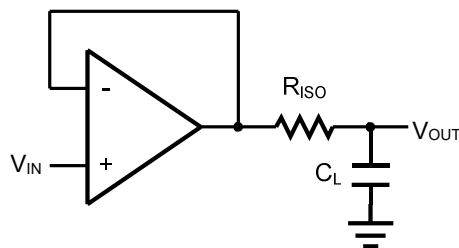
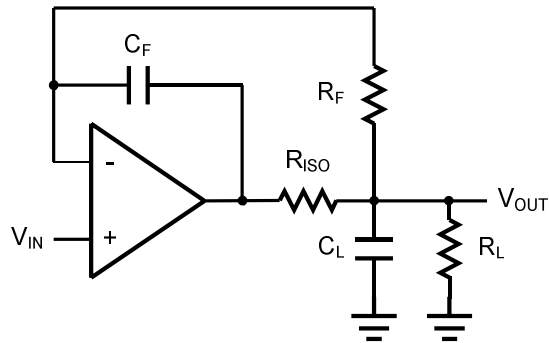

Figure 2. Indirectly Driving a Capacitive Load Using Isolation Resistor
Figure 3. Indirectly Driving a Capacitive Load with DC Accuracy
The HGx376 family is optimized for bandwidth and speed, not for driving capacitive loads. Output capacitance will create a pole in the amplifier's feedback path, leading to excessive peaking and potential oscillation. If dealing with load capacitance is a requirement of the application, the two strategies to consider are (1) using a small resistor in series with the amplifier's output and the load capacitance and (2) reducing the bandwidth of the amplifier's feedback loop by increasing the overall noise gain. Figure 2. shows a unity gain follower using the series resistor strategy. The resistor isolates the output from the capacitance and, more importantly, creates a zero in the feedback path that compensates for the pole created by the output capacitance.
The circuit in Figure 3 is an improvement to the one in Figure 2. RF provides the DC accuracy by feed-forward the VIN to RL. CF and RISO serve to counteract the loss of phase margin by feeding the high frequency component of the output signal back to the amplifier's inverting input, thereby preserving the phase margin in the overall feedback loop. Capacitive drive can be increased by increasing the value of CF. This in turn will slow down the pulse response.